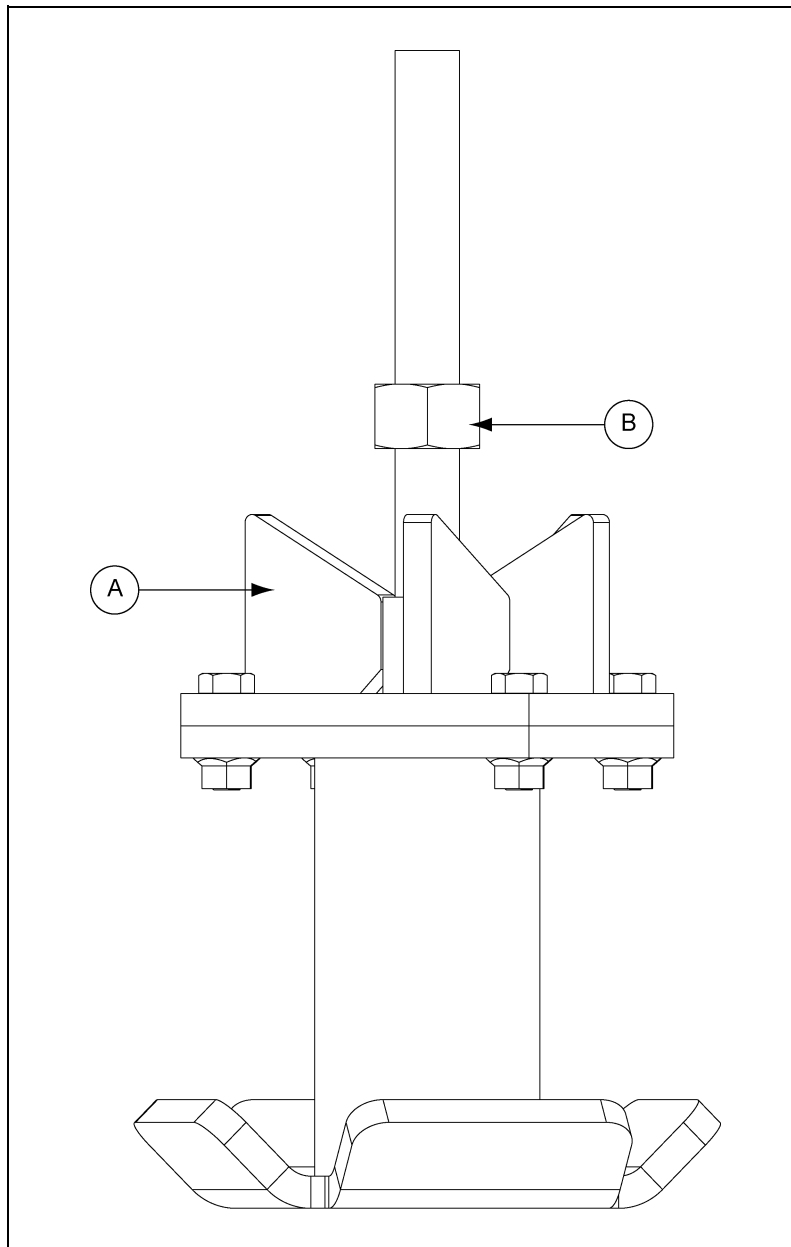

Figure 4AF
1. Install hex nut (B) to mount (A). (See Figure 4AF.)